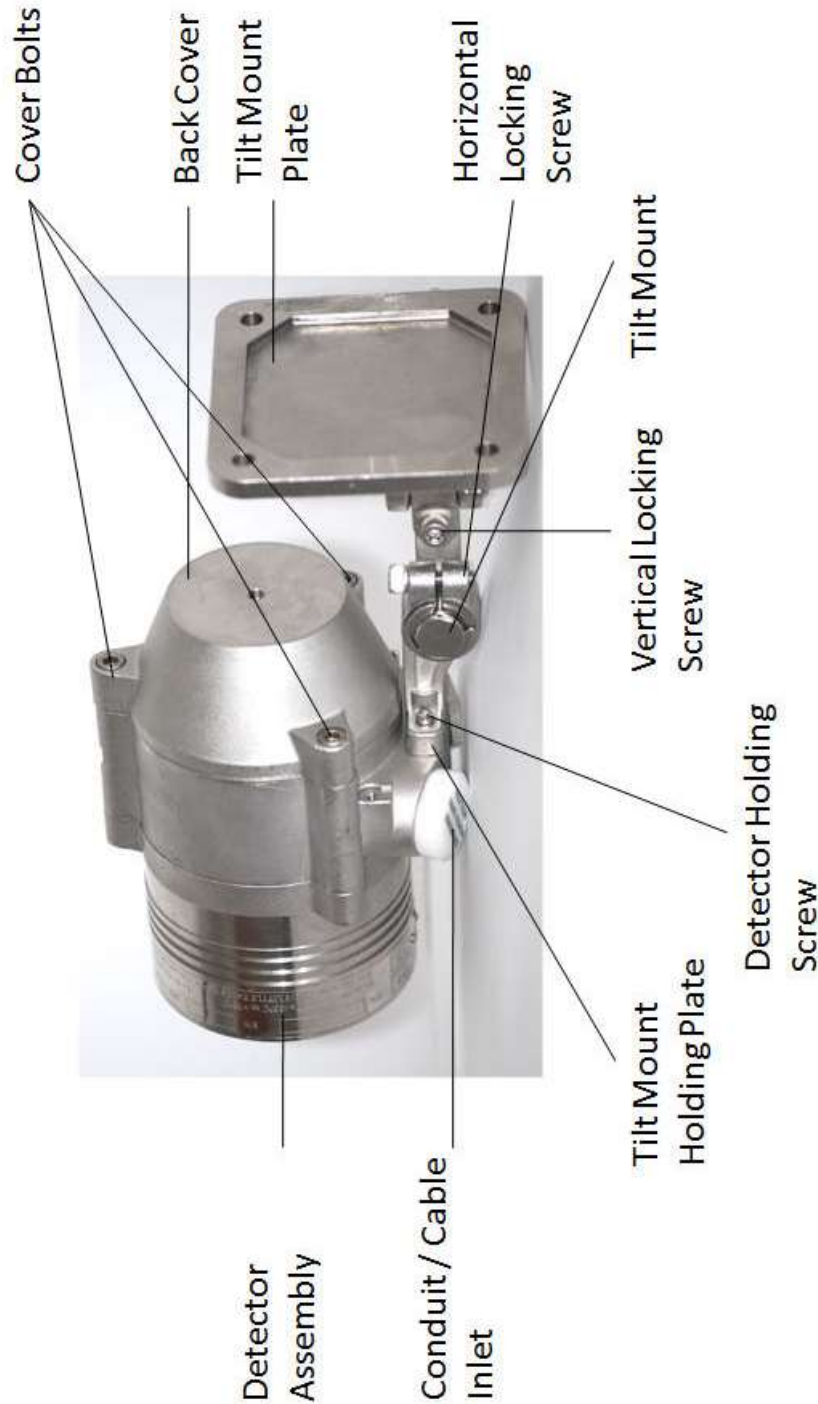

Figure 3: Detector with Tilt Mount
Figure 3 shows the detector mounted on the tilt mount.
- 5** Place and secure the detector's back cover by screwing the 3 socket-head-screws in the cover bolts (Figure 3).